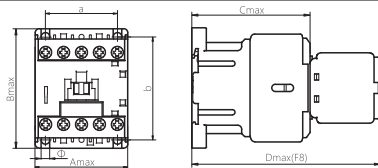

Figure 1 Outline and installation dimensions of NC8-06M~12M series AC contactors
3.1 See Figure 1 and Table 4 for outline and installation dimensions of NC8-06M~12M series AC contactors.